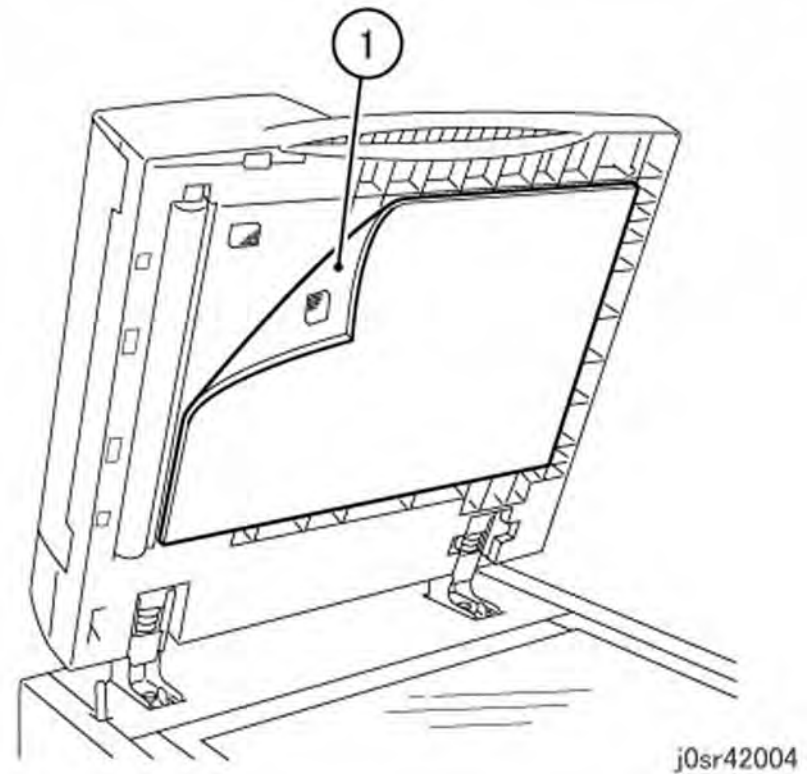

Figure 1 Removing the DADF Platen Cushion
1. Remove the DADF Platen Cushion (Figure 1)